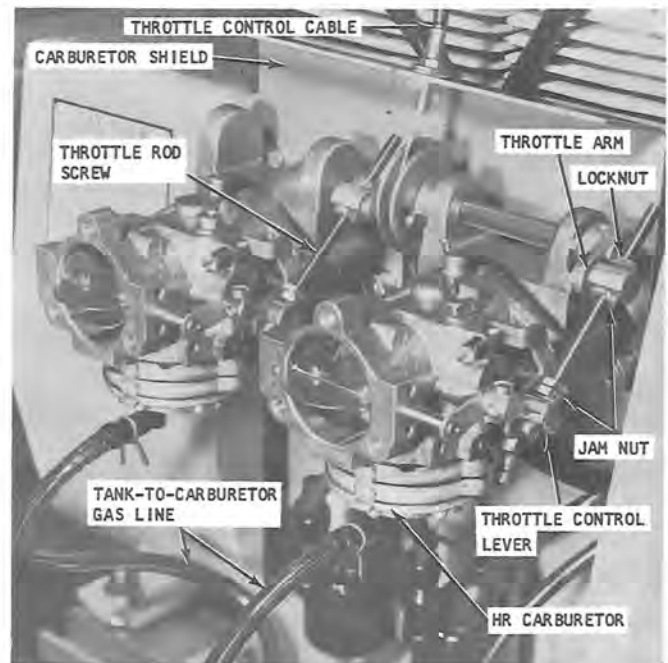

Figure 9
- Release the hose clamps and disconnect the tank-to-carburetor gas line (figure 9) at the carburetor. Wipe up any spilled gasoline immediately.